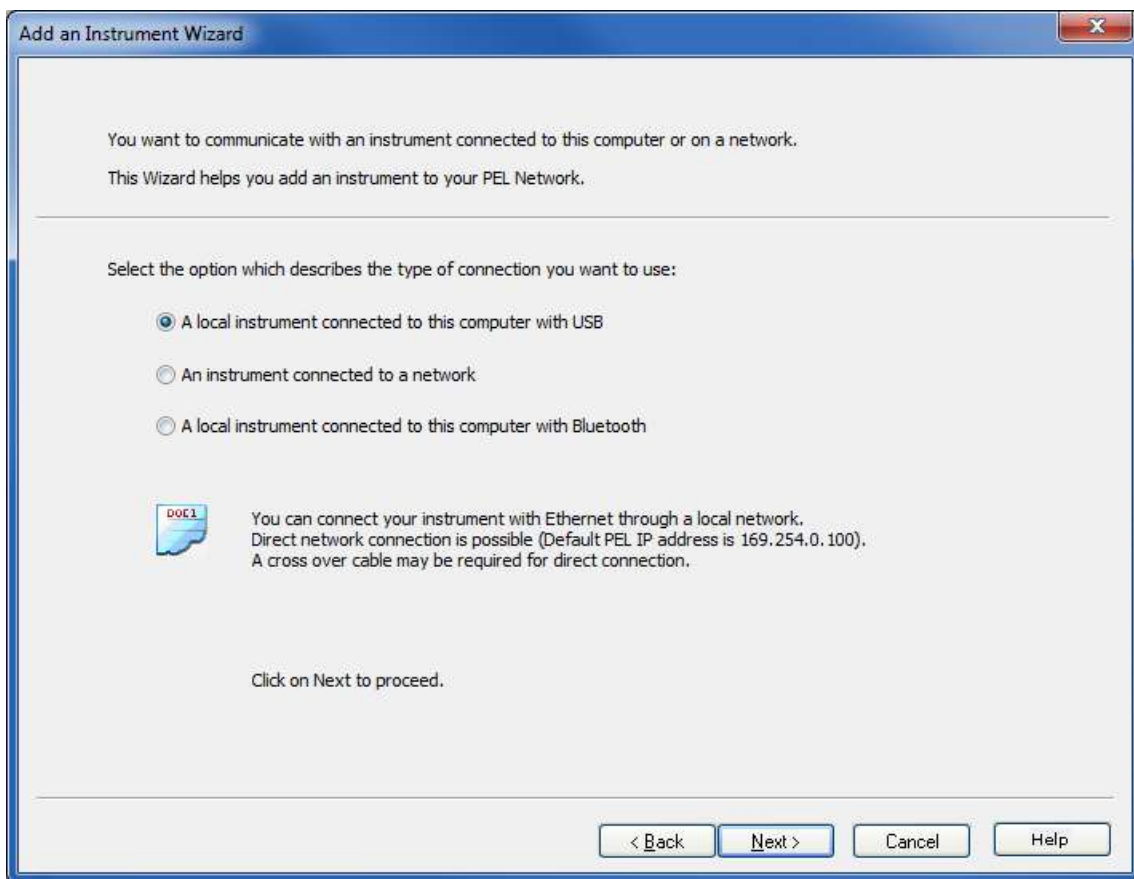

Figure 41
**Note:** The dialog boxes shown in this section correspond to the connection type chosen in Figure 41.